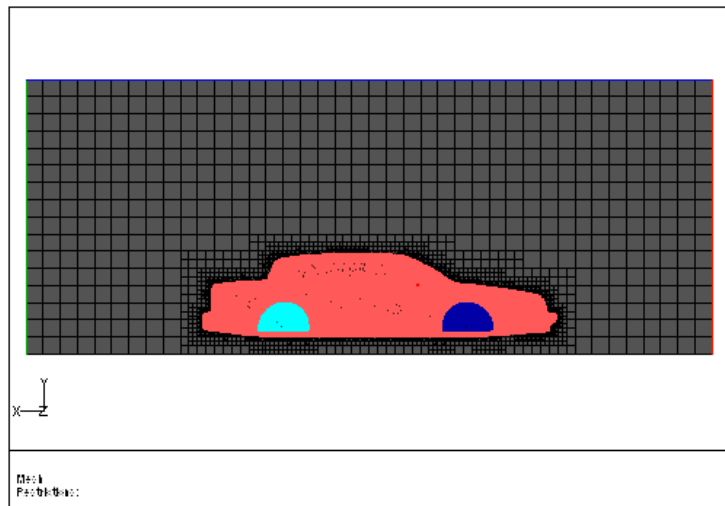

Figure 6.2: Hexcore Mesh Upto Domain Boundaries
- (f) Click **Display** in the Display Grid panel (Figure 6.2).
In Figure 6.2, you can see that the hex cells are generated upto the extents of the domain defined in the Hexcore panel. For easy recognition, the newly created zones are named wall-x-max, wall-x-min, wall-y-max, etc.